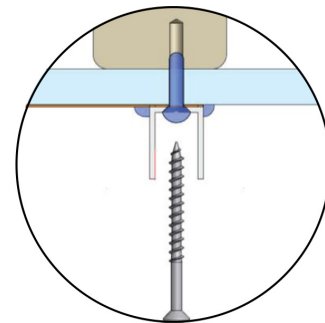

FIG 9.
- When plumb, drill 2 holes (3.5mmD) in wall channel, lining up with framing locations. (FIG 9). The top hole should be within 100mm of top of channel and the second hole within 1000mm of top of channel. No screws will be required lower than 1000mm up from bottom of base.
- Clean underside of wall channel with a dry rag before running a thick bead (be very liberal to allow overflow and proper adhesion) of silicone in a continuous line down the entire length of the back of the wall channel (FIG 9) and place on wall. Pop out channel connector and apply silicon into the floor to wall junction, pushing the channel connector back in once done.